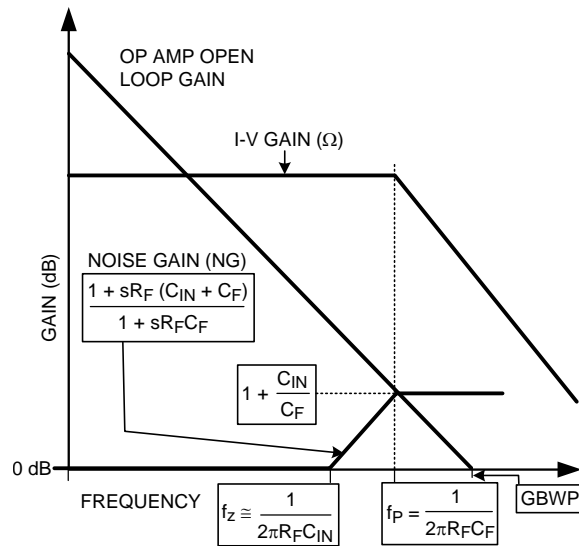

Figure 58. Transimpedance Amplifier Noise Gain and Transfer Function
Figure 58 shows the Noise Gain (NG) and transfer function (I-V Gain). As with most Transimpedance amplifiers, it is required to compensate for the additional phase lag (Noise Gain zero at f_z) created by the total input capacitance: C_D (diode capacitance) + C_{CM} (LMH6624 CM input capacitance) + C_{DIFF} (LMH6624 DIFF input capacitance) looking into R_F . This is accomplished by placing C_F across R_F to create enough phase lead (Noise Gain pole at f_p) to stabilize the loop.